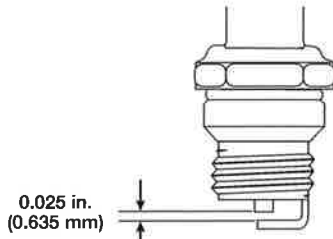

Fig. 29
4. Replace cracked, fouled or dirty spark plug. Set the air gap at **0.025 in. (0.635 mm)** using a feeler gauge (Fig. 29).